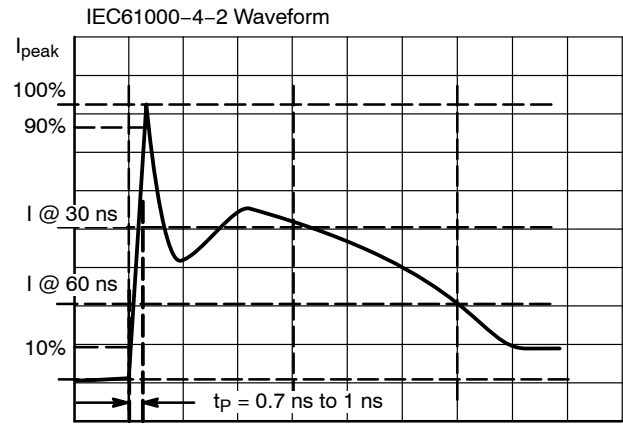

Figure 6. IEC61000-4-2 Spec
- For test procedure see Figure 6 and application note AND8307/D.